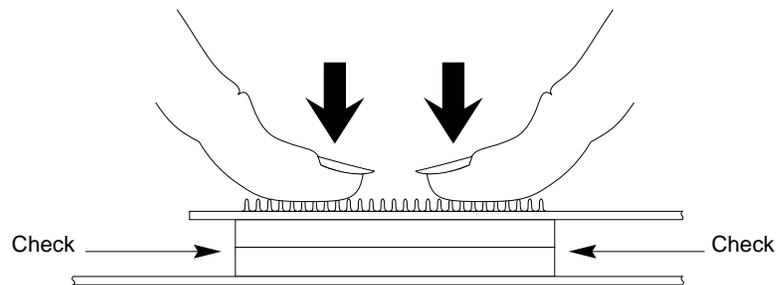

Figure 1-8 Pressing the FDDIXPI board into the connector on the graphics board
6. Press to seat the FDDIXPI board's connector into the graphics board's connector, as shown in Figure 1-8.
- Look underneath the FDDIXPI board to see the 96-pin connectors. Due to the other components on the graphics board, it may be difficult to see the connectors. The male and female connectors must be touching along the entire shared surface, as shown in Figure 1-8. Be sure to check each end of the connection.